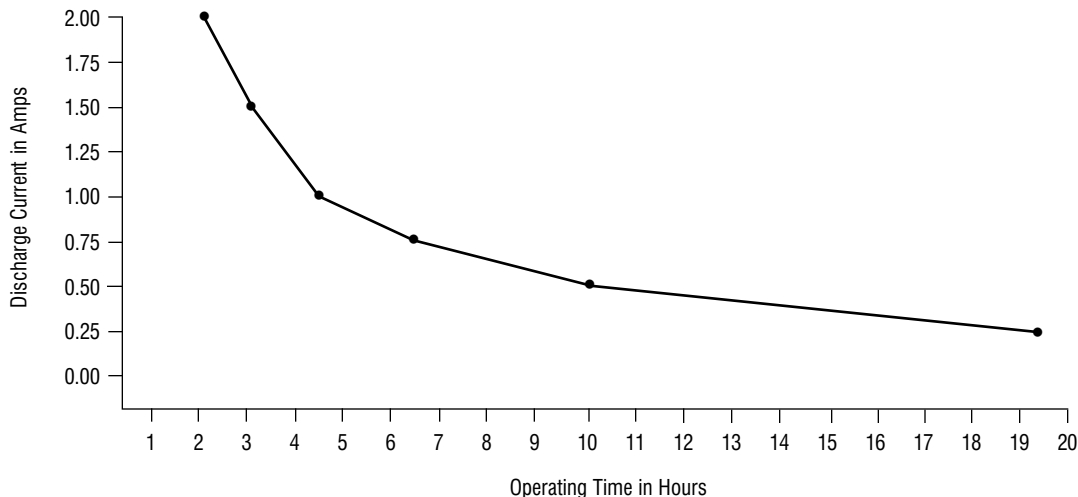

Figure 4 Model 733 discharge data.
8.2 BATTERY REPLACEMENT The Model 733's internal batteries should provide reliable service for a minimum of 5 years, with 8 to 10 years possible. Variables that can effect battery life include the number of charge/discharge cycles and ambient temperature. A label, attached to the right side of the cabinet, indicates when the batteries were installed at the factory. This can be used to "guess" when the batteries will require replacement. However, the only true test of battery quality is to place a known load across the Model 733's DC output, disconnect AC power to place the unit under battery operation, and then measure the time until the unit automatically "shuts down." Now compare the measured time with curve shown in Figure 4. If the measured time deviates significantly from the published specification, the batteries need replacement.